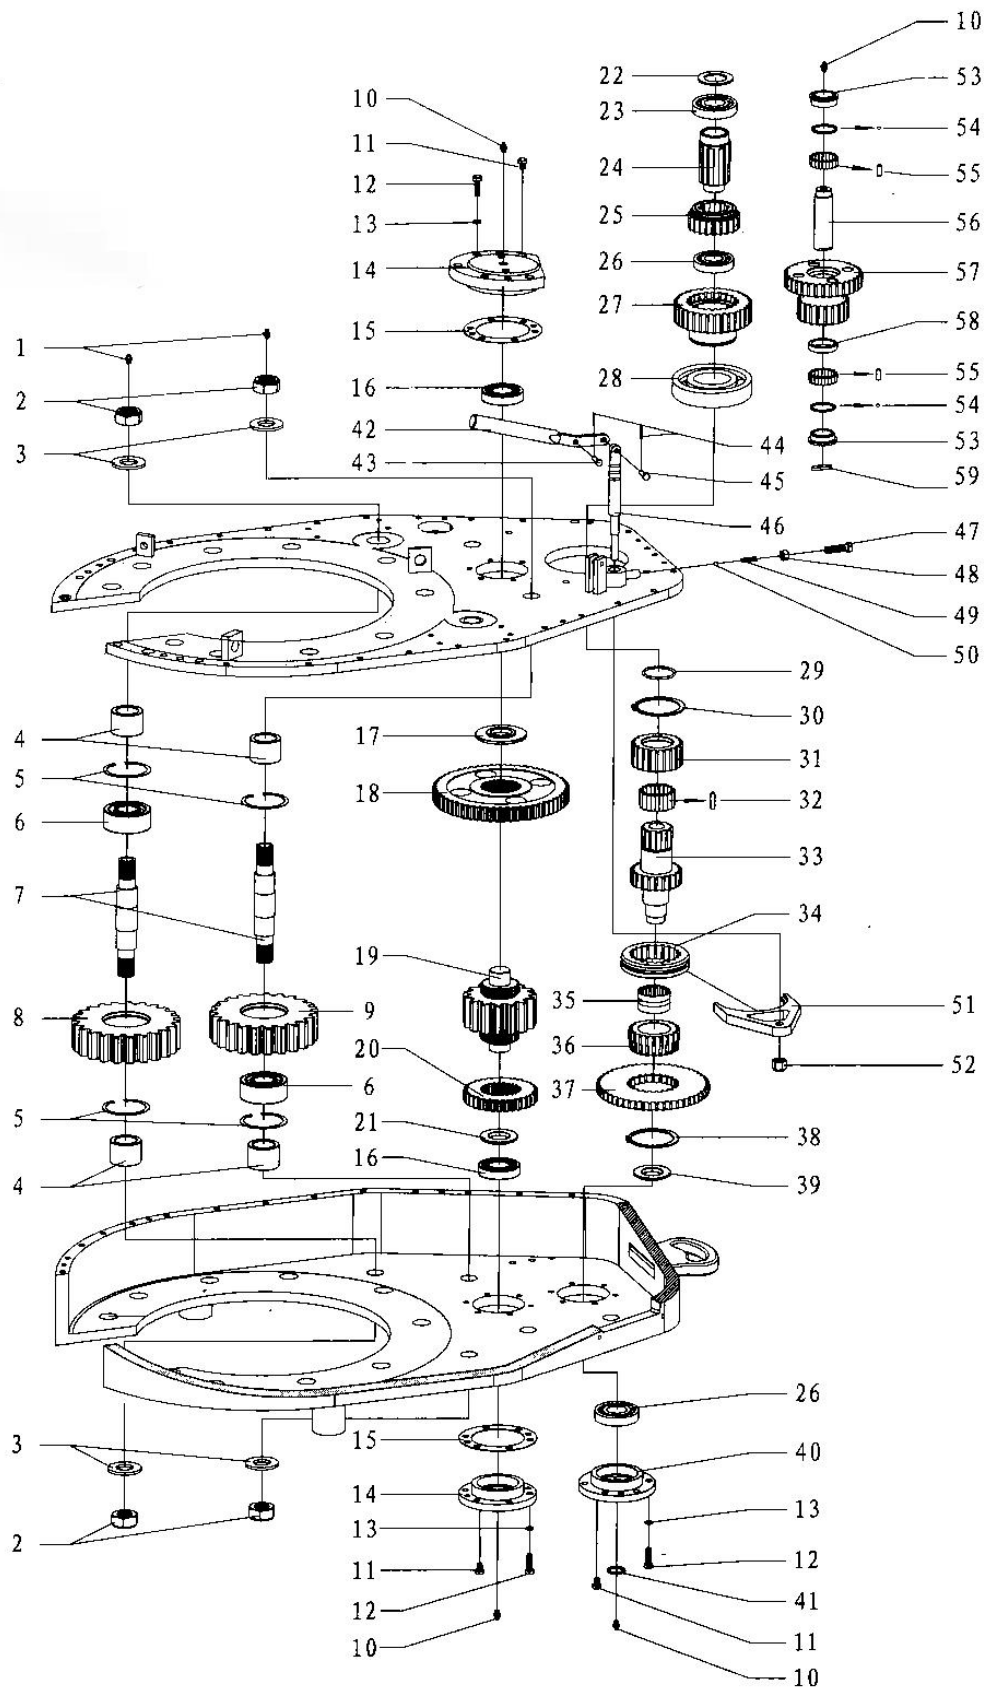

Fig. 7-6
6. Drive gear of master tong (Fig 7-6, Table 6)